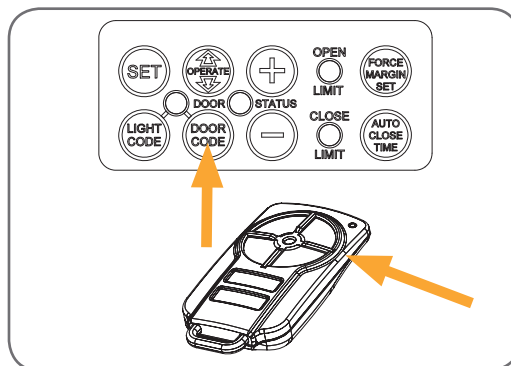

fig 34
- Place a piece of timber approximately 40mm high on the floor directly under the door (**Fig. 34**).
- Briefly press the DOOR CODE button two (2) times, then press it again and hold (will beep three times on third press (Fig. 34)).
- Press one of the four buttons on the transmitter for two (2) seconds, pause for two (2) seconds, then press the same button again for two (2) second.